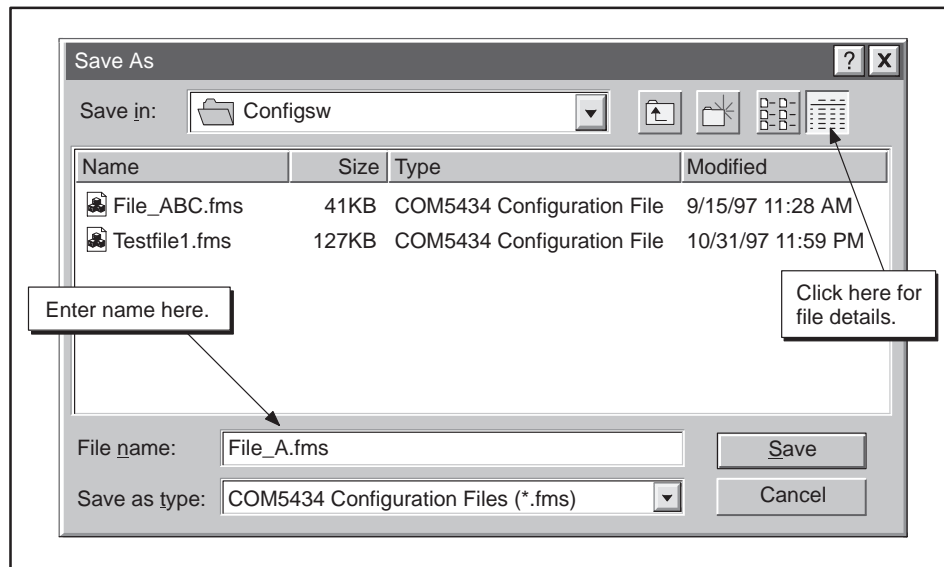

Figure 5-33 Saving Your Configuration to a File
4. Enter a file name, as shown in Figure 5-33.